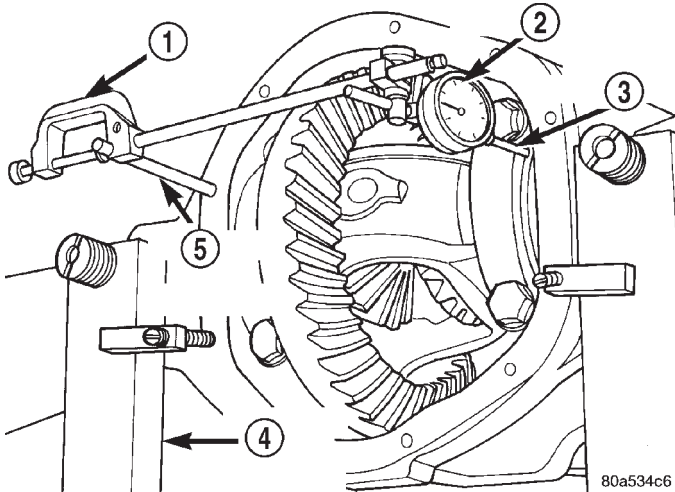

Fig. 25 Install Dial Indicator
- (8) Install a Pilot Stud C-3288-B at the left side of the differential housing. Attach Dial Indicator C-3339 to pilot stud. Load the indicator plunger against the opposite side of the housing (Fig. 25) and zero the indicator.
(2) Install a Pilot Stud C-3288-B at the left side of the differential housing. Attach Dial Indicator C-3339 to pilot stud. Load the indicator plunger against the opposite side of the housing (Fig. 25) and zero the indicator.